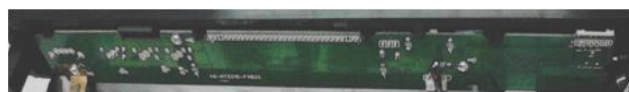

Figure 3
Step 5:Dismantle the front control board.Remove 3 screws on the board, then pull up the board.(Figure 3)